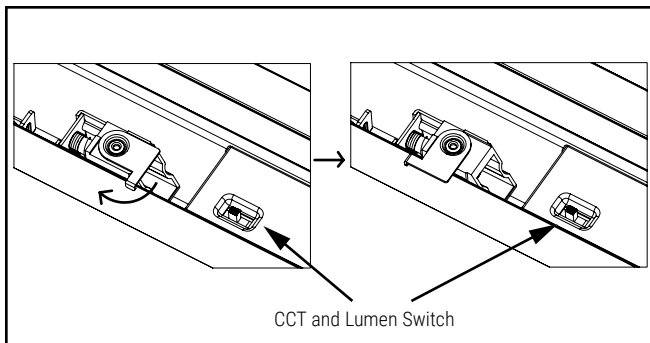
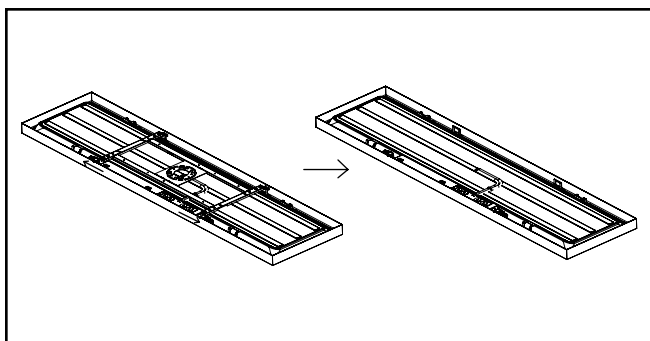

Figure 6.
Figure 7.
To select color temperature and lumen output, slide the switches located on the driver enclosure to the corresponding locations noted on the labels. See Figure 6
- Turn and slide the latches to release the mounting bracket, then remove the mounting bracket from the fixtures, see Fig. 6.
- To remove from ceiling, rotate the locking levers as shown in Figure 6, then slide them out and away from the center. The fixture should drop down from locking lever side.
3. Turn and slide the latches to release the mounting bracket, then remove the mounting bracket from the fixtures. See Fig.6 and Fig.7.